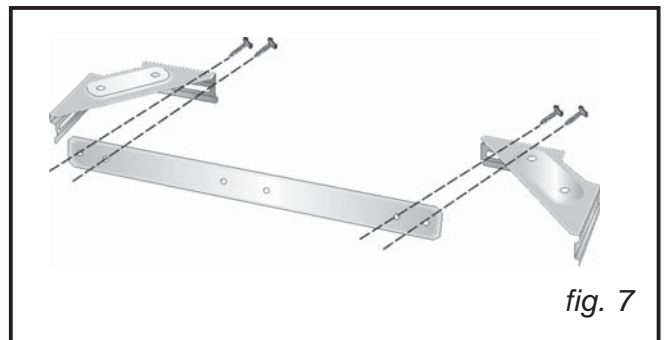
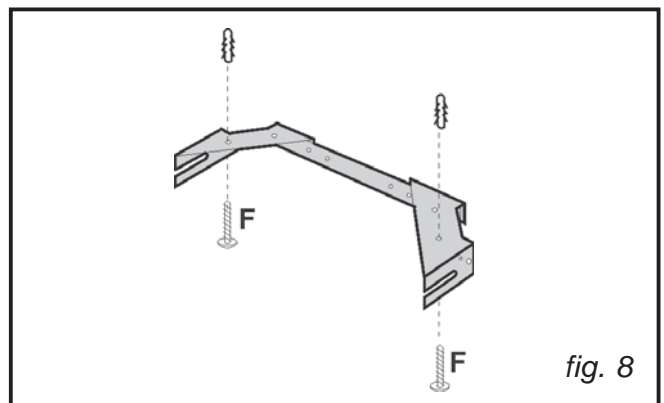

fig. 7
fig. 8
- Assemble the tube support using a 4 screws kit (Fig.7); then, by means of the screw anchors and screws (F) provided, fix the bracket to the ceiling in such a way that it is positioned along the axis with your hood (Fig.8).
- Assemble the tube support using a 4 screws kit (Fig.7).
- Then, by means of the screw anchors and screws (F) provided, fix the bracket to the ceiling in such a way that it is positioned along the axis with your hood (Fig.8).